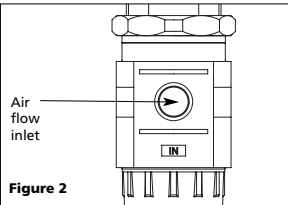

Figure 2
Locate the air flow inlet (See Figure 2, detail). Air must flow in the specified direction for this unit to function properly.
5. Verify that the "IN" and "OUT" markings match the air flow direction. (See Figure 2.)